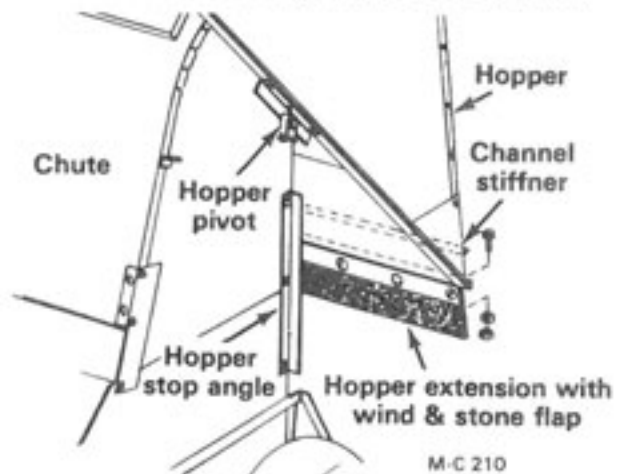

Figure 1A
4. Bolt the Hopper Extension with Wind and Stone Flap to the Channel Stiffner (Ref. 9) with 5/16-18 x 3/4" hex-head capscrews and Whiz nuts, see Figure 1A.